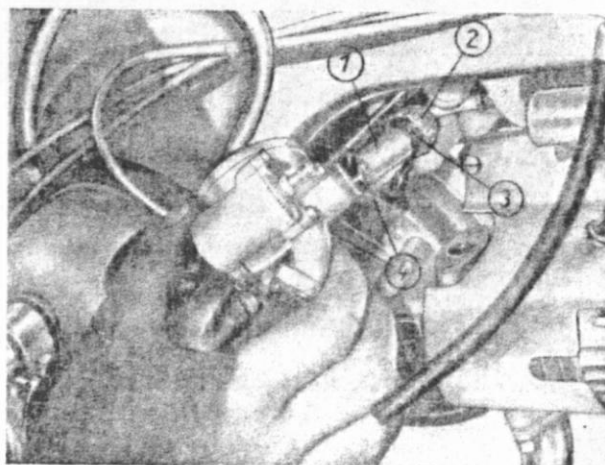
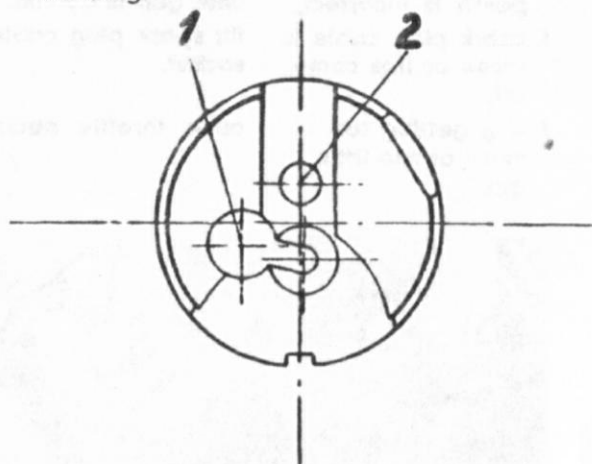

Fig. 31: Further dismantling of the carburettor
Fig. 32: End view of throttle slide
4. Pull out throttle slide (Fig. 31, No. 1) together with valve needle and compression spring.
5. Press together screw cover (Fig. 31, No. 2) and throttle slide (Fig. 31, No. 1), push cable into the bore-hole (Fig. 32, No. 1) of the throttle slide, and pull out cable with spring (Fig. 31, No. 3) and screw cover.
6. Remove valve needle (Fig. 31, No. 4) together with clamp spring. Clean all parts; if necessary, change clamp spring, clamp needle into second notch from the top and fit it into the needle hole of the throttle slide (Fig. 32, No. 2). Assemble carburettor in reversed order of dismantling.